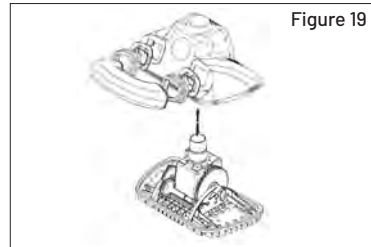

Figure 19
2. Lift the Outer Housing straight up off of the chassis. Squeeze the tabs on the Bumper/Height Limiter Clips (inside the housing) to remove the Bumper Height Limiter. The Bumper/Height Limiter, Bumper/Height Limiter Boots, and Bumper/Height Limiter Clips pull apart, (see Figure 19).